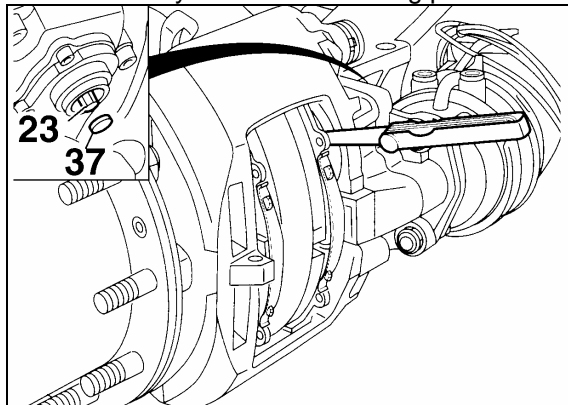

FIGURE 37: RUNNING CLEARANCE 12116
- a) Insert a feeler gauge 0.028 inch (0.7 mm thickness) between tappet and pad backplate (Fig. 37). Turn adjuster pinion clockwise until 0.028 inch (0.7 mm) clearance is achieved. Replace cap (37) (Prévost # 641313).
- b) To ensure a constant running clearance between the rotor and pads, the brake is equipped with an automatic adjuster unit. When the pads and rotor wear, the running clearance between the pads and rotor increases. The adjuster (23, Fig. 37) and turning device turn the threaded tubes by the amount necessary to compensate the wear.